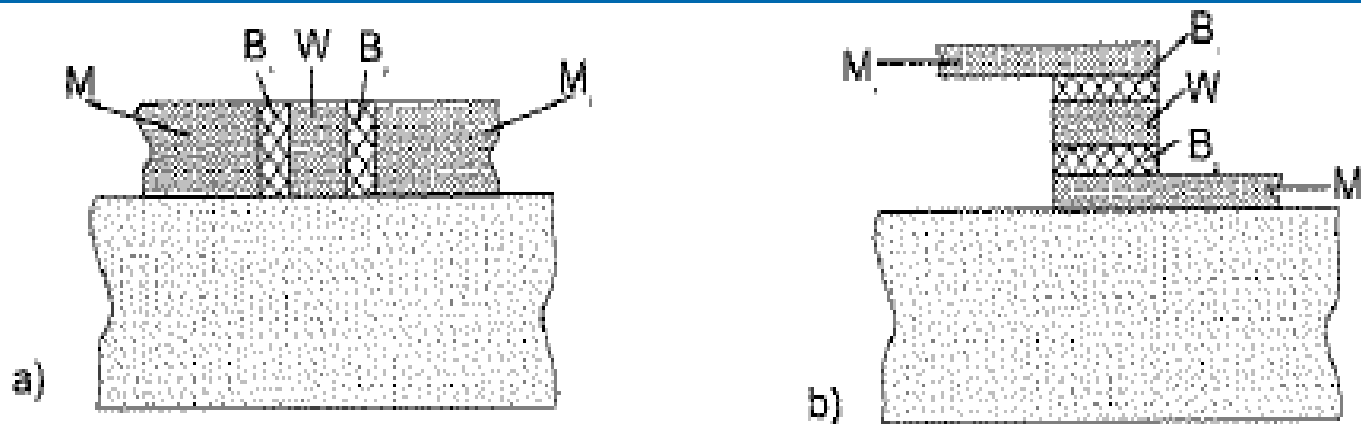

Fig. 12.8. Cross section of the RTD: (a) with vertical and (b) with horizontal barriers
- In RTDs, source and drain are separated from channel (W) with tunneling elements (Figure 12.8)